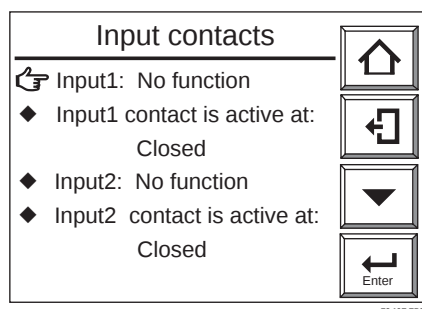

Figure 8.13 Input Contacts Display
- (1) Press the “Setup” key in the Basic panel display to display the Execution/Setup display.
- (2) Select “Setup” Setup in the Execution/Setup display to display the “Commissioning” (Setup) display.
- (3) Select “Contact setup” in the “Commissioning” (Setup) display.
- (4) Select “Input contacts” in the Contact setup display. The Input contacts display then appears, as shown in Figure 8.13.